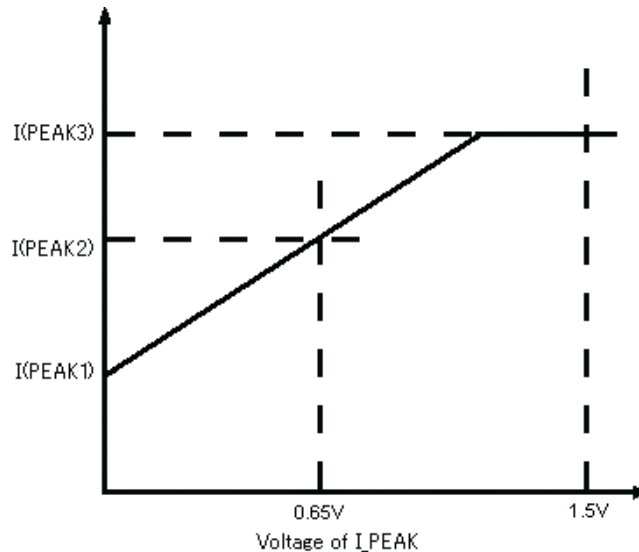

Figure 8. I_PEAK Terminal Voltage vs. Peak Current at Primary Side
- The peak current at the primary side can easily be programmed. The peak current can be set from IPEAK1 to IPEAK3 by using the I_PEAK terminal of the TPS65573 as shown in Figure 8. These values (IPEAK1 and IPEAK3) are specified in product datasheet.
The TPS65573 provides a method to program the peak current at primary side with a voltage applied to the I_PEAK terminal. Figure 8 shows the relationship between the voltage of I_PEAK terminal and the peak current at primary side of the transformer. This function has the analog slope controlled by the voltage of I_PEAK terminal.